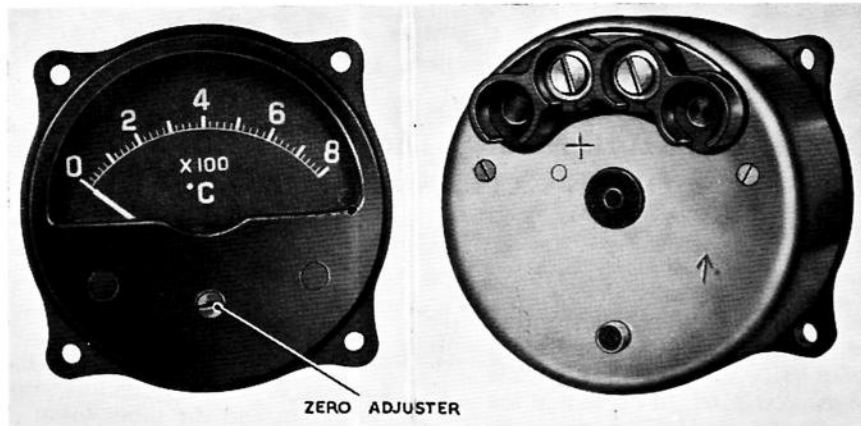

Fig. 2 Indicator, exhaust gas temperature thermometer, 0 to 800 deg. C.
10. The indicator, shown in fig. 2, consists of a sensitive moving coil millivoltmeter, the scale of which is graduated from 0 to 800 deg. C. in increments of 20 deg., the pointer and main scale markings at every 100 deg. being treated with fluorescent compound.